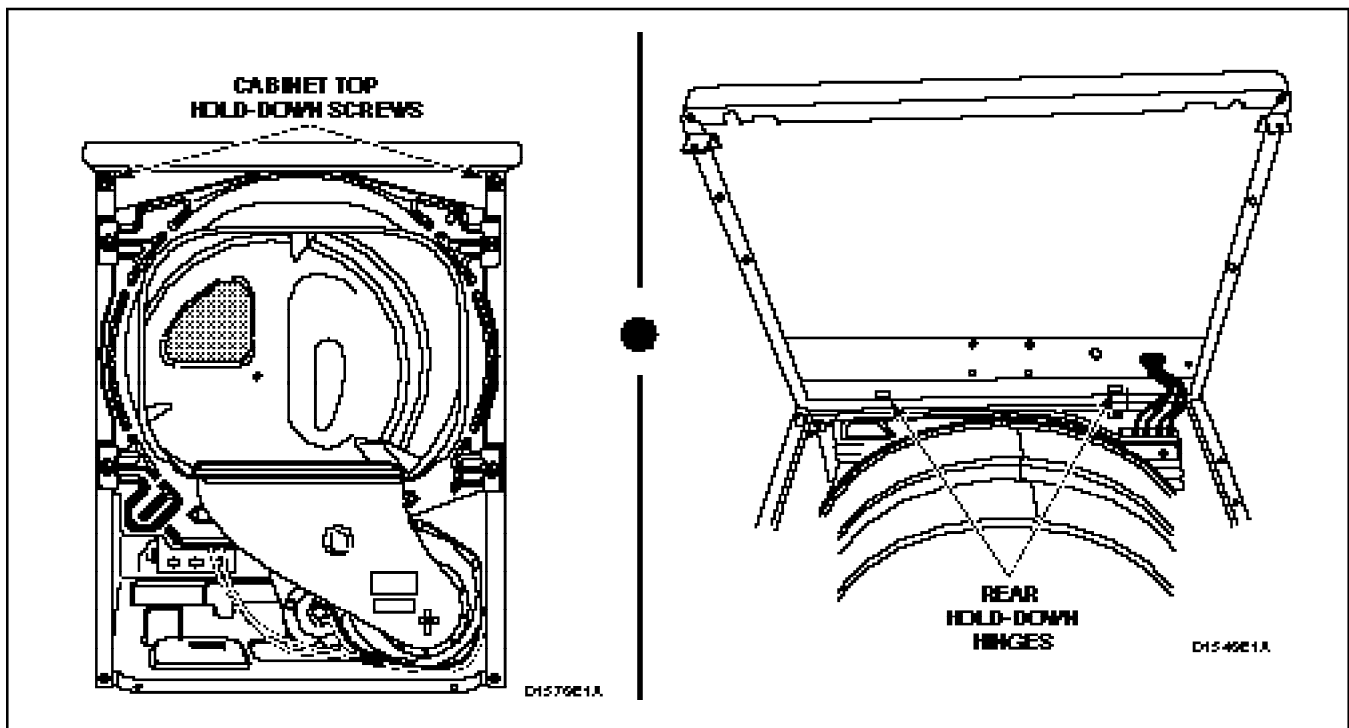

Figure 35
- Remove two cabinet top hold-down screws, *Figure 35*.
- Lift cabinet top to a vertical position by hinging it on the rear top hinges, *Figure 35*.
- Carefully withdraw wire harness through hole in cabinet top and lift the top off the top hinges, *Figure 35*.